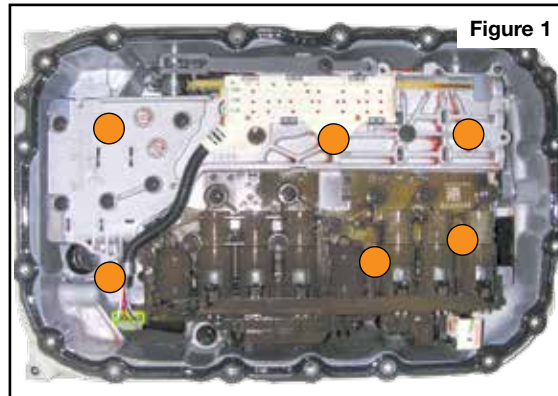

Figure 1
- Remove six control solenoid valve assembly-to-case Torx Plus® bolts (**Figure 1 & 2**). A special socket (GM Tool Part No. DT-48285) is available (**Figure 3**), or a standard 1¹/₃₂" six-point drive socket will work with care.